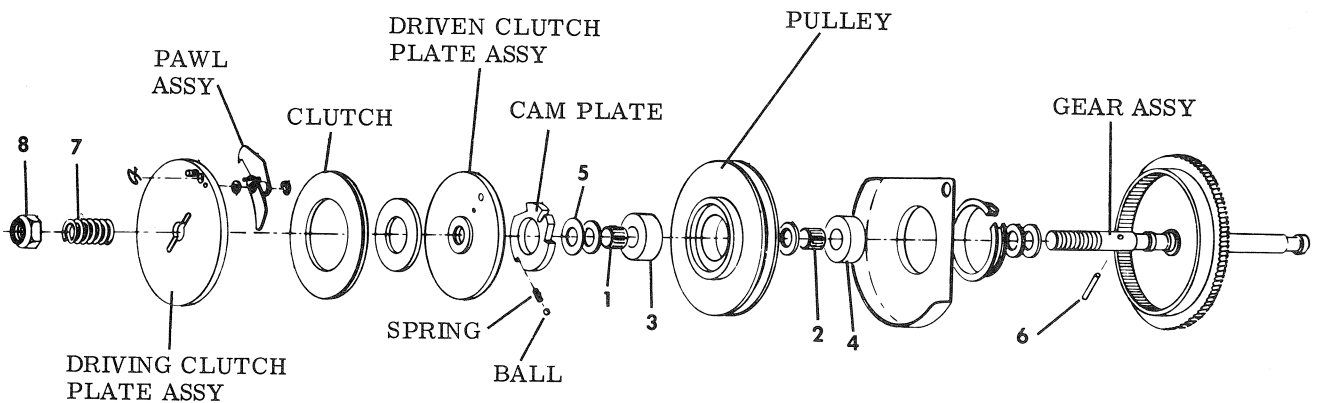

Figure 3-24. FILM FEED CLUTCH ASSEMBLY
12. Film Feed Clutch Assembly (Figure 3-24)
a. When removing cam plate do not lose three spring loaded balls or the springs. Rings (1 & 2) hold bearings (3 & 4) on shaft of gear assembly. Remove bearing (3) by holding pulley; tap end of shaft of gear assembly with rubber or plastic mallet. Use a padded pliers to pull bearing from shaft.
c. Apply a light coat of DC-44 grease to slot and hole of driving clutch plate assembly. Washer (5) is used, as required to obtain 0.020 ± 0.005 clearance